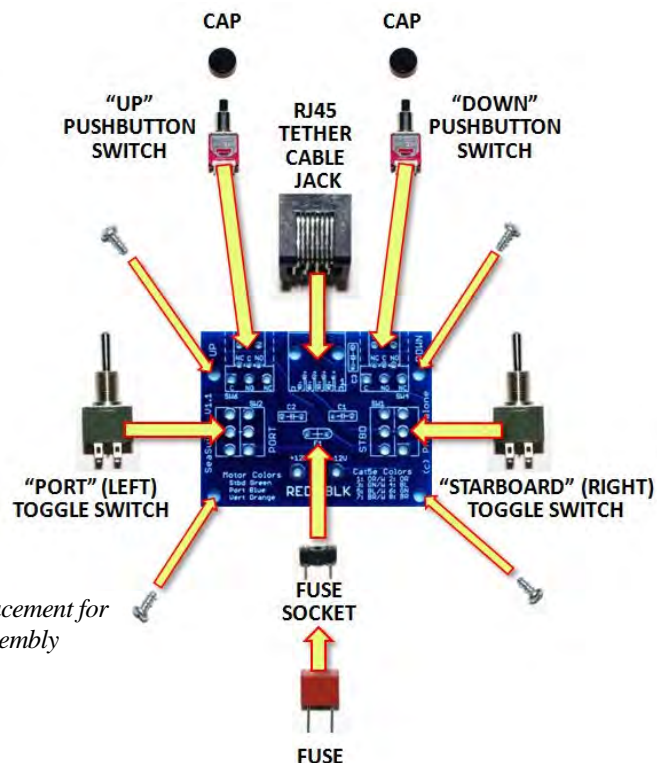

Figure 3.3-1: Component Placement for the Control Box PCB Assembly
- Review Figure 3.3-1, and refer to it as needed during the following assembly steps. The parts will be installed in order according to their size, smallest first. **DO NOT INSTALL COMPONENTS UNTIL IS IS CALLED FOR IN THE INSTRUCTIONS**